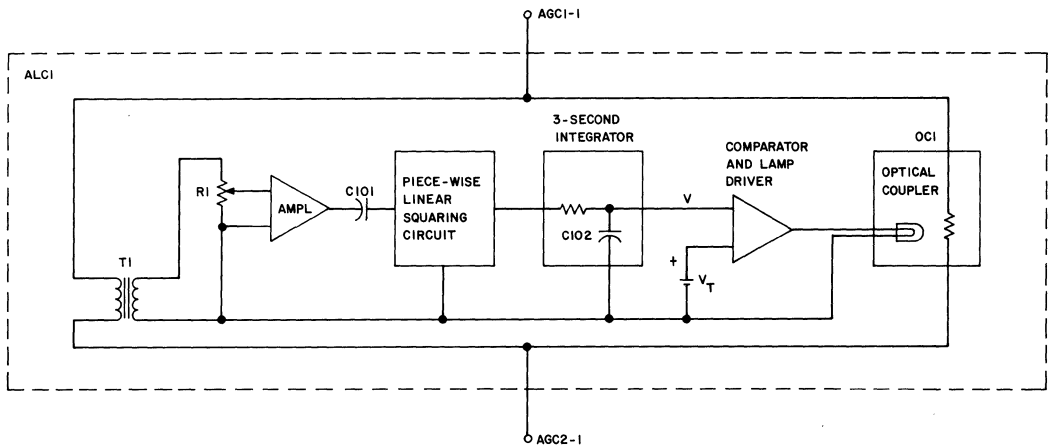

Fig. 3—Block Diagram of ALC Circuits in 75A Control Unit
**4.03** Voice or data signals present in the IU are applied to transformer T1 in the 75A control unit (Fig. 3). The output of T1 is level adjusted, amplified, and ac coupled to the piecewise linear squaring circuit. The squaring circuit output is integrated to produce a dc voltage proportional to the 3-second average power of the signal passing through the IU. When this voltage exceeds the preset threshold voltage of the ALC circuit, the differential amplifier will drive current through the optical coupler (OC1) lamp, which illuminates the photoconductor (resistor) in OC1. Illumination causes the resistance of the photoconductor to decrease and shunt excess signal power away from the IU so as to hold the signal level at the IU constant at the preset level.